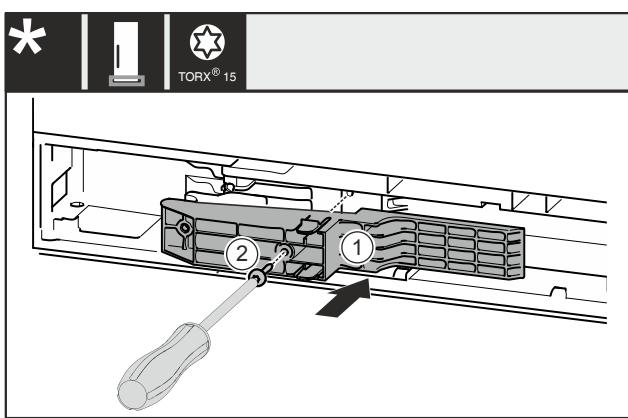

Fig. 52 \*
- ▶ 将把手侧的适配件 Fig. 52 (1)插入凹槽。\*
- ▶ 将螺钉 Fig. 52 (2)用螺丝刀拧紧。\*